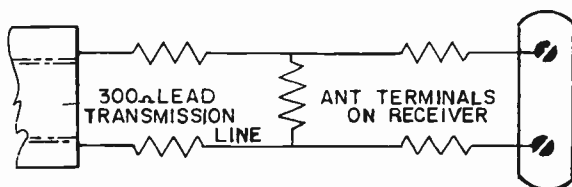

Fig. 102. All resistors must be the same value. Use 91- or 110-ohm $\frac{1}{2}$ -watt carbon resistors.
If excessive signal strength is the trouble, insert the simple attenuator pad shown in Fig. 102. Use $\frac{1}{2}$ -watt carbon resistors
Don't wait for trouble of the type just described. Build some of the attenuator pads shown in Fig. 102. They are easy to make, are inexpensive, and are handy in strong-signal areas.
signal areas will produce overloading, causing smear, distortion, and pulling. Detune the fine-tuning control slightly. If this improves the condition, then the trouble is definitely due to the booster. There are two solutions: (1) Substitute lower-gain tubes in the booster. (2) Insert an attenuator pad as shown in Fig. 102.